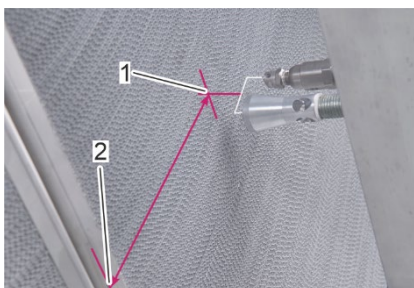

Fig. 50: Distance between the centre of the nozzle pair and the rotor segment
2. Measure the distance between the centre of the nozzle pair (Fig. 50/1) and the edge of the rotor segment (Fig. 50/2).